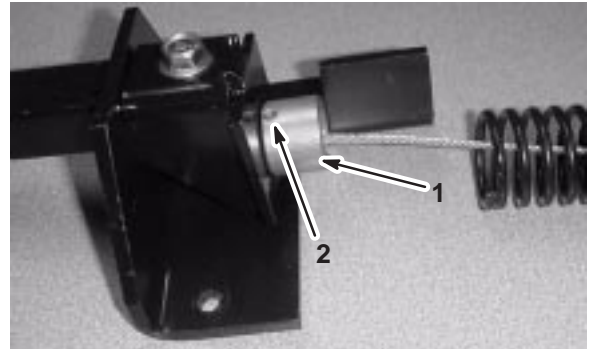

Figure 7
7. Set the cable into the left brake bar bracket, and secure it firmly in place with a locking collar and set screw assembly (Fig. 7). The cable must be securely held in the bracket with no movement at all.